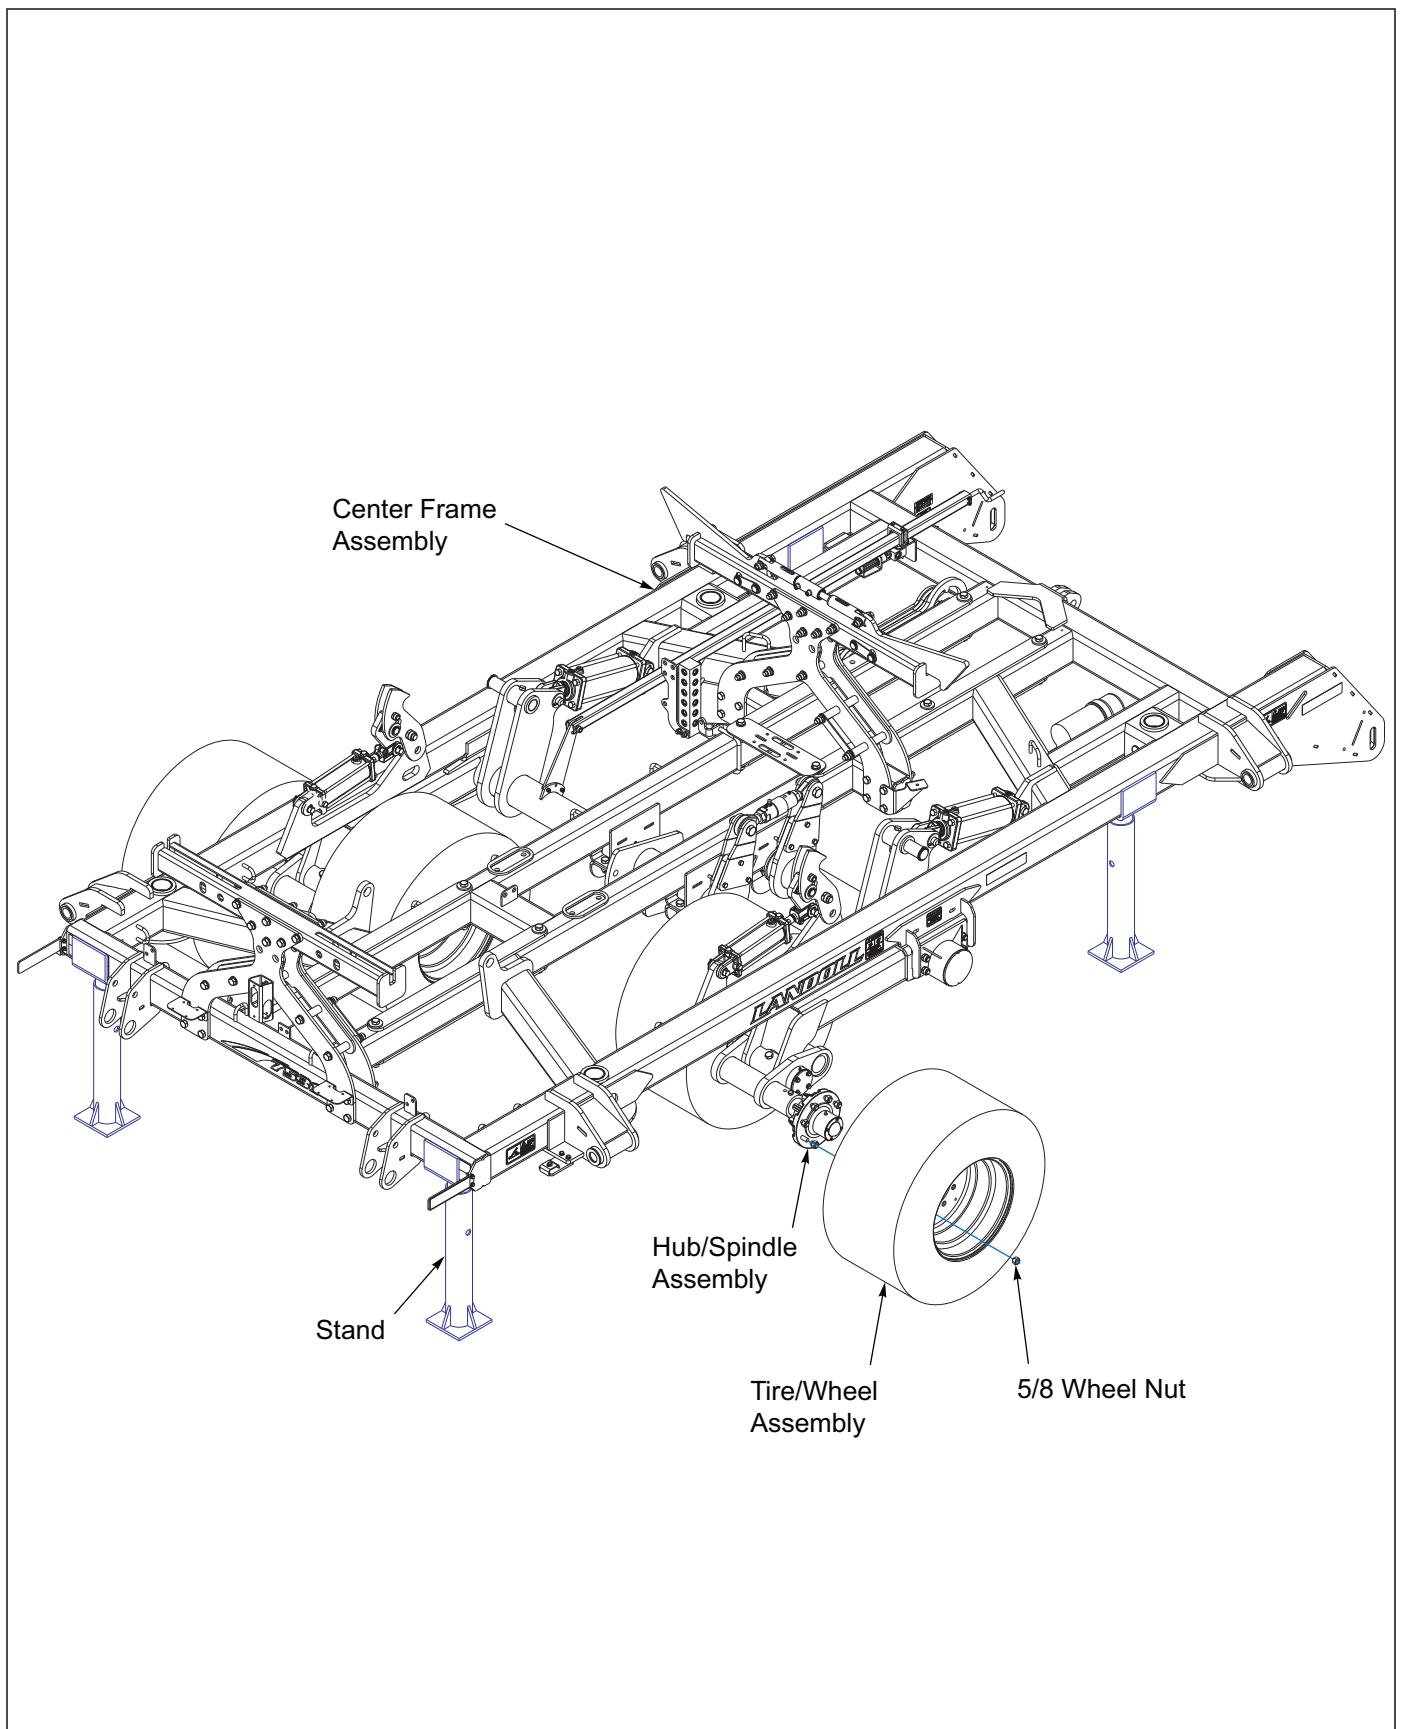

Figure 3-1: Center Frame Assembly 7531-23'-29'
1. Models 7531-23'-29', place the center frame assembly on stands approximately 36" high, *See Figure 3-1.*